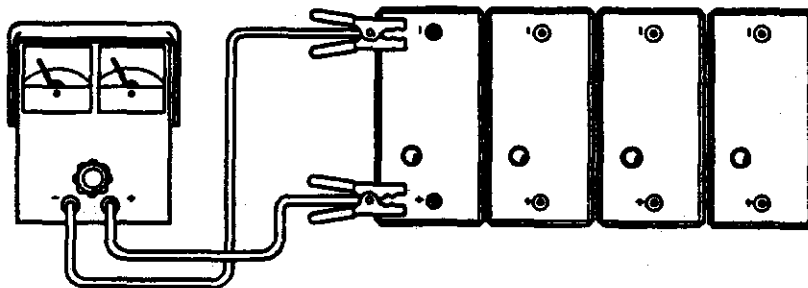

Fig. 2 - Battery Testing
6. If no hydrometer eye, measure terminal voltage (Fig. 2).